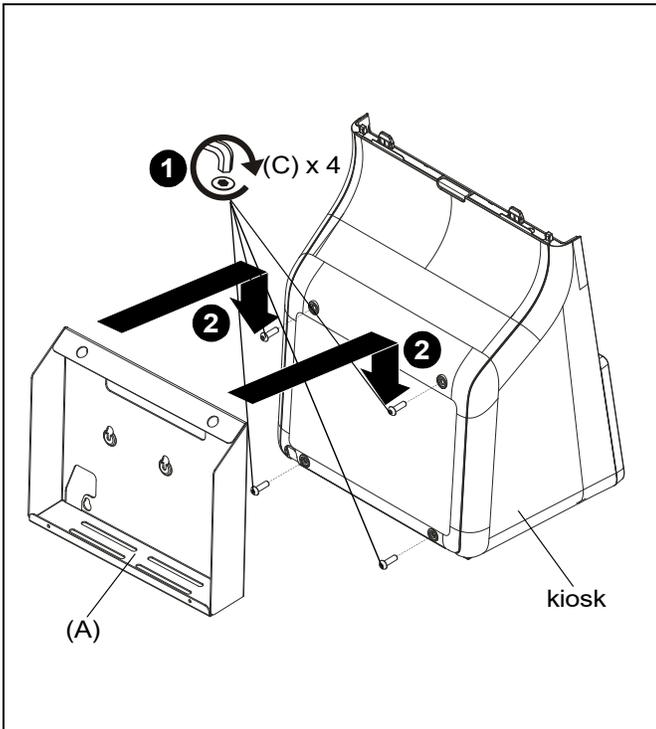

Figure 1
1. Loosely install four M6 x 10mm button head cap screws (C) into holes on back of kiosk (not included). (See Figure 1)
2. Install kiosk to kiosk bracket (A) by hanging bracket onto screws installed in Step 1. (See Figure 1)
3. Tighten screws to secure kiosk to bracket (A).